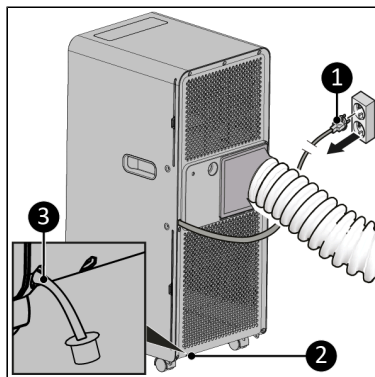

Figure 37.
1. Make sure the device is switched off and the plug is removed from the power outlet (Figure 37, pos. 1).
2. Remove the cap (Figure 37, pos. 3) from the water drainage point (Figure 37, pos. 2).